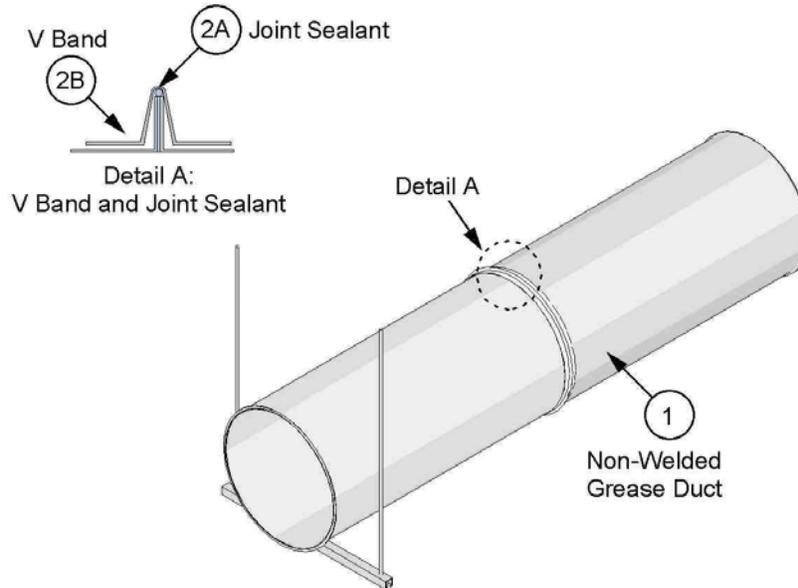

Figure 1. Non-Welded Grease Duct Model No. AADW
- B. **V BAND –** Use the supplied V band (see Figure 1). Place the loose V band, filled with sealant (Item 2A), over one of the duct flanges. Join to the other duct flange with the continuous bead of sealant (Item 2A) and rotate slightly to ensure complete coverage of sealant (Item 2A) on flanges. Ensure that the flanges are located within the V band